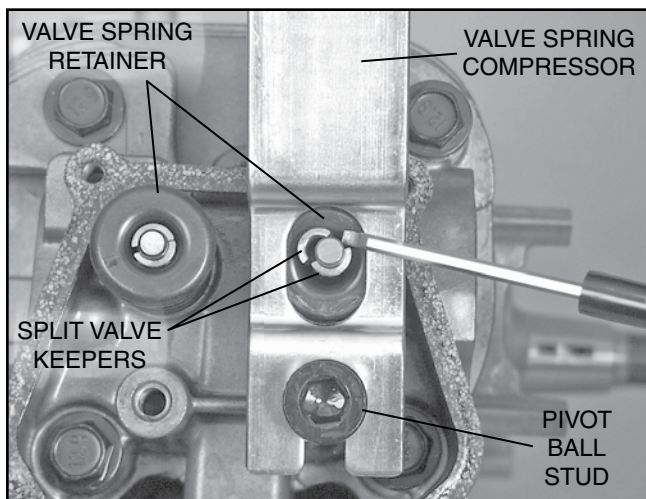

Figure 6-5. Remove Valve Spring Keepers
- Place a commercially available small engine valve spring compressor squarely on top of the valve spring retainer. The split valve keepers should "pop" out (see Figure 6-5).